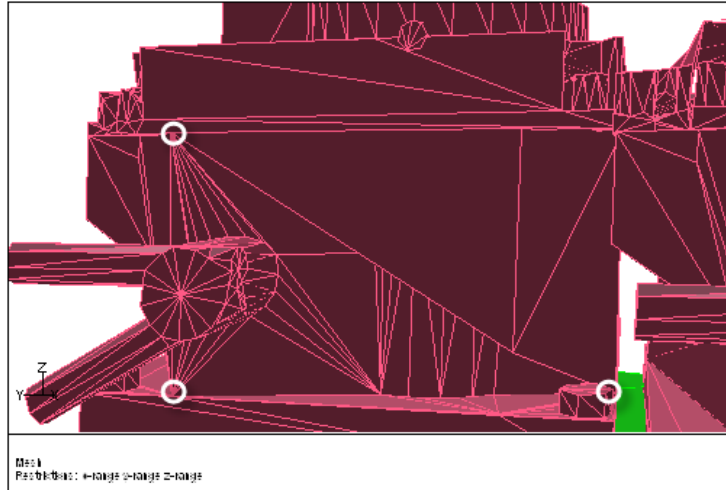

Figure 7.3: Nodes Selected to Close Hole-1 in f_v8-airintake
- (e) Zoom in to the region shown in Figure 7.3.
- (g) Select the three nodes surrounding the hole using the right mouse button (Figure 7.3).